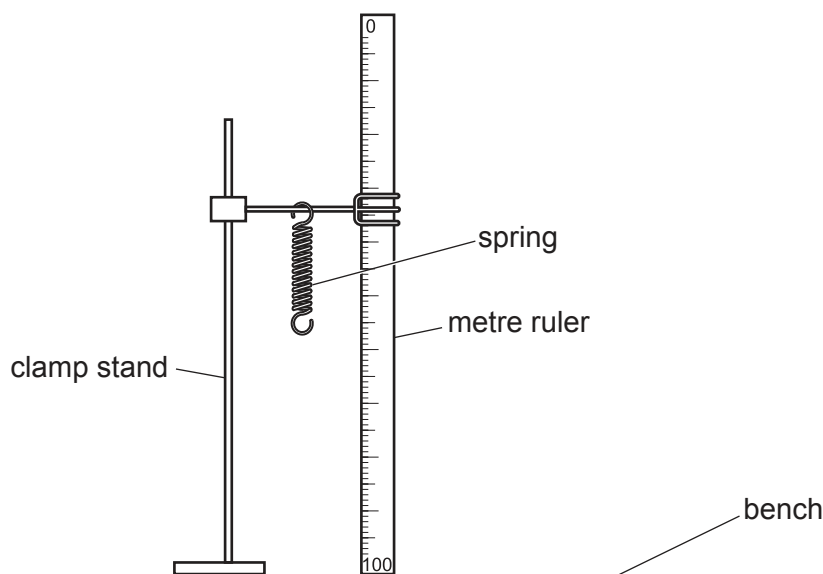

Fig. 1.1
2. The apparatus is to be set up for the candidates as shown in Fig. 1.1. The spring is to be suspended from the clamp, supported by a boss and stand. The spring must be sufficiently high above the laboratory bench so that when a 5.00 N load is suspended from the spring, the bottom of the load is above the surface of the bench.
Check that the apparatus is set up ready for the next candidate, as shown in Fig. 1.1, with the spring near to the metre ruler.